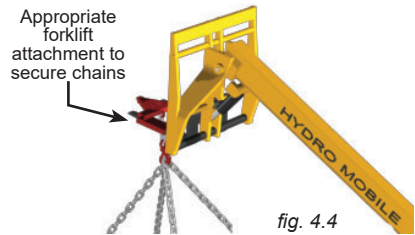

fig. 4.4
- 2- If a rough terrain forklift is used, make sure to use an appropriate forklift attachment to secure the chains or slings (shown in red in fig. 4.4).